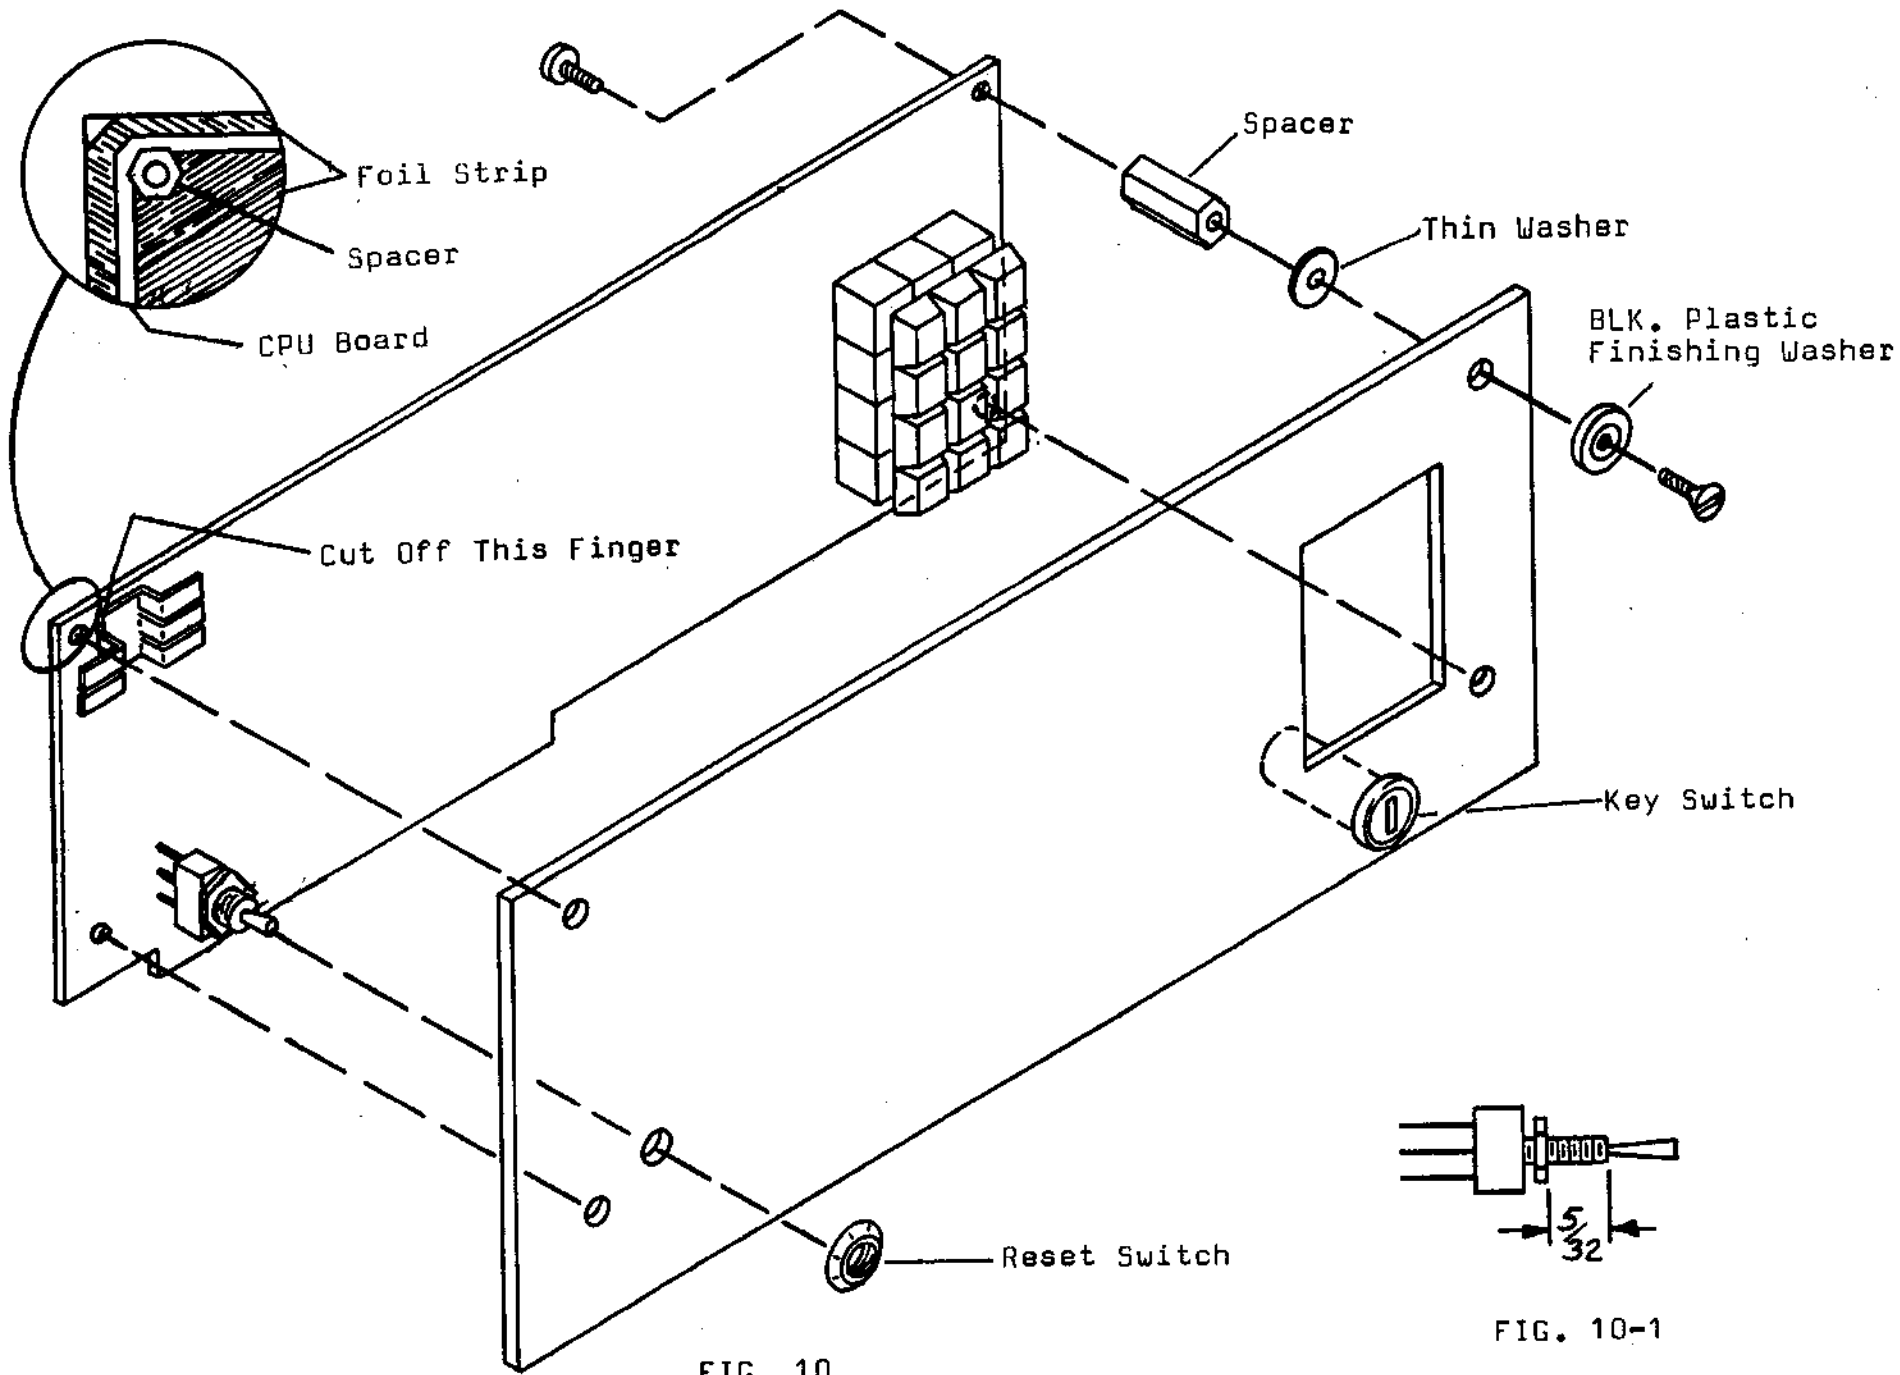

FIG. 10
- ( ) As shown in Fig. 10, cut, with wire cutters, the upper left hand "finger" from the upper left hand heat-sink on the CPU board.
- ( ) Refer to Fig. 10. Mount the four 1" spacers to the front panel. Use four black #6-32 x 3/8" screws, four black finishing washers, and four #6 flat washers. Do not tighten these four screws at this time.
- ( ) Orient the CPU board as shown in Fig. 10. Position the leads from the reset switch through the holes in the CPU board.
- ( ) Attach the CPU board to the four (4) 1" spacers with four (4) #6-32 x 3/8" screws. Position the spacer on the upper left hand corner according to the detail drawing on Fig. 10. Be sure the spacer clears the foils as shown, otherwise it could short between the CPU board foils.